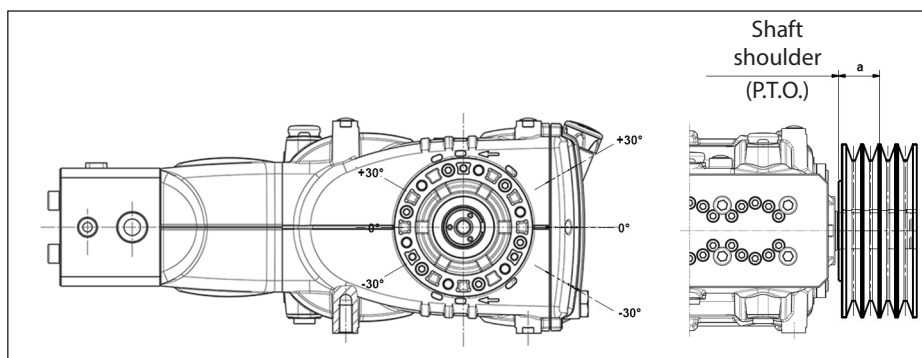

Fig. 11
The radial load on the shaft must not exceed 4500 N (value necessary for Layout definition). The transmission is considered adequate if the load is applied to a maximum distance $a=50$ mm from the shaft shoulder (P.T.O) as shown in Fig. 11.
- b) Use high performance belts – for example **XPB** instead of **SPB** – as a lower quantity of belts for the same transmitted power may be necessary and a consequent shorter resulting distance compared to the shaft shoulder (P.T.O.) “a” of Fig. 11.
- e) Follow the direction of the belt pull as shown in Fig. 11 for other needs, contact our **Technical** or **Customer Service Departments**.